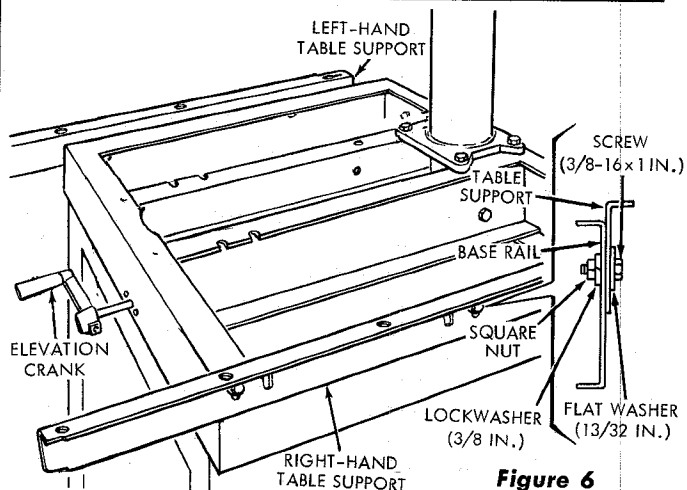

Figure 6
- Install right- and left-hand table supports (figure 6) with two 3/8-16 x 1-inch, hex-head screws, 13/32 flat washers, 3/8-inch lockwashers and 3/8-16 square nuts in each table support. Refer to inset in figure 6 for correct location of nuts and washers. Tighten these screws just enough to permit the table supports to slip when tapped with a mallet — to facilitate later adjustments. Tap each table support until the screw mounting slots are positioned with screws approximately equal distant from ends of slots.